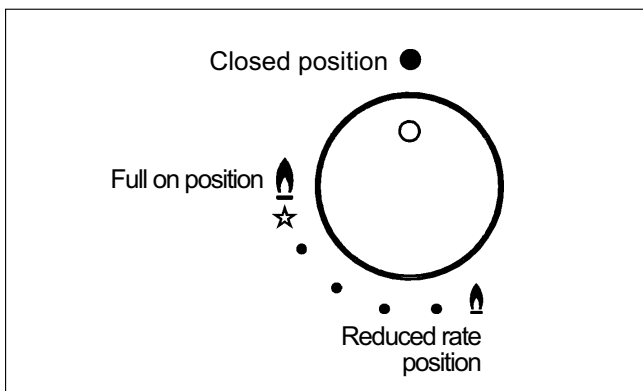

FIG. 1
For burners fitted with a safety cut-off device, turn the knob corresponding to the burner to use anti-clockwise to the "Maximum" position (big flame fig. 1) until it stops and then press the knob. Continue pressing the knob for about 10 seconds after the burner has been lit.
- When boiling point is reached, turn the knob to the "Minimum" position (small flame fig. 1).
- burners fitted with safety cut-off devices can only be lit when the knob is in the "Maximum" position (big flame fig. 1).